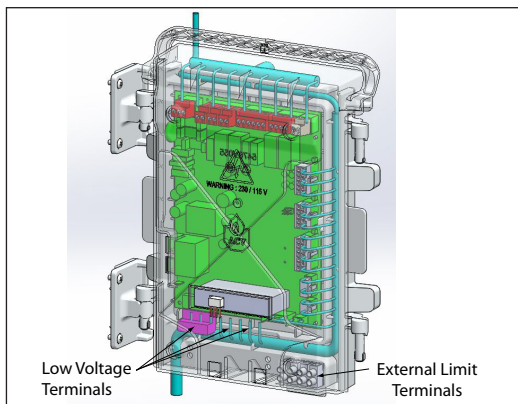

Fig. 22 - Low Voltage Connections
1. Connect the room thermostat or dry contact zone valve end switch wires to low voltage terminals X6-3&4 or X5-5&6 located at the bottom of the ACVMax control module as shown in *Fig 22 below*.
1. Connect the DHW aquastat or temperature sensor wires to low voltage terminals X4-1&2 located at the bottom of the ACVMax control module as shown in *Fig. 22 on page 34*.
3. Connect the external limit wires to the Manual Reset Limit or Auto Reset Limit low voltage terminals located on the lower right corner of the ACVMax control module housing as shown in *Fig. 22 on page 34*.
1. Connect the system temperature sensor wires to low voltage terminals X5-3&4 located at the bottom of the ACVMax control module as shown in *Fig. 22 on page 34*.